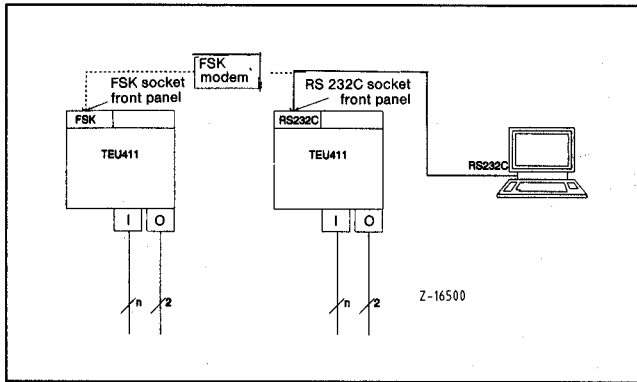

Fig. 11 Transmitter with RS 232 C or FSK interface
- Fig. 11: for transmitter (19" plug-in card, surface-mounting case IP 20 and field case IP 54) with RS 232 C interface or FSK interface,